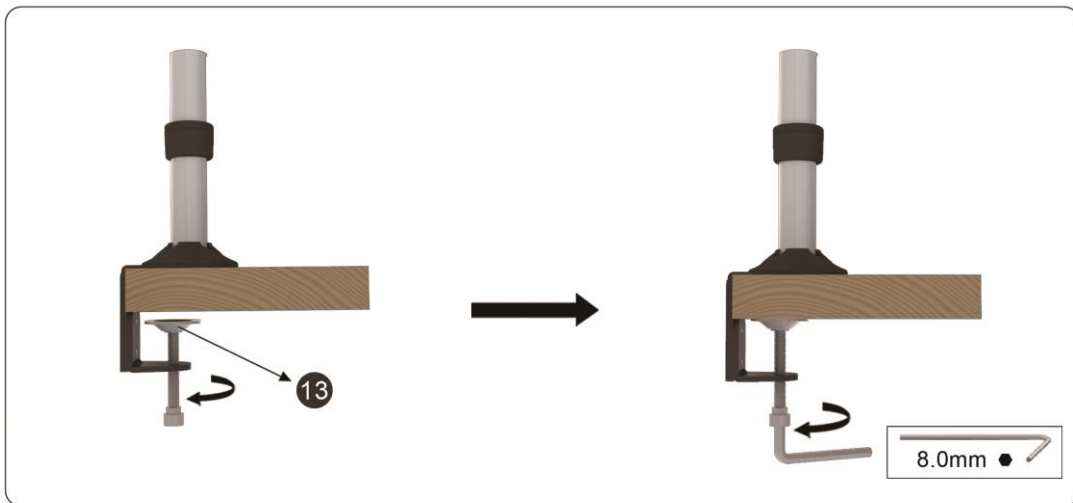

Figure 1-5
5. Place the desk clamp towards the edge of the desktop. Ensure the pressure plate is in contact with the bottom surface of the desk. Using the 8mm Allen wrench, tighten the hex screw until the mount is securely in place (**See Figure 1-5**).